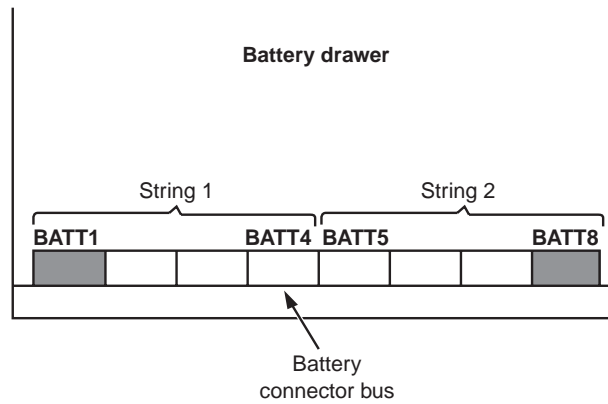
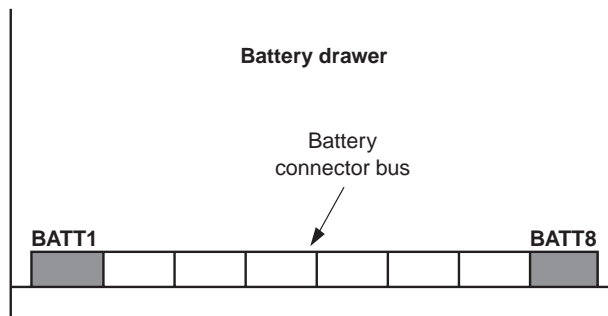

Figure 27. Battery Bus Connector Locations - 12V Batteries
Figure 28. Battery Bus Connector Locations - 6V Batteries
- 21 Connect the cables to the remaining batteries (Step 14 through Step 20), and install the batteries in the sequence of Figure 27 on page 34.
Loop the cable from the negative terminal (nearest the cable aisle) against the connector bus as shown in Figure 27 on page 34. Route the cable from the positive terminal straight across the battery.
- 23 Plug the connector into the battery connector bus at the front of the drawer at the numbered positions shown in Figure 27 on page 34 or Figure 28 on page 34.